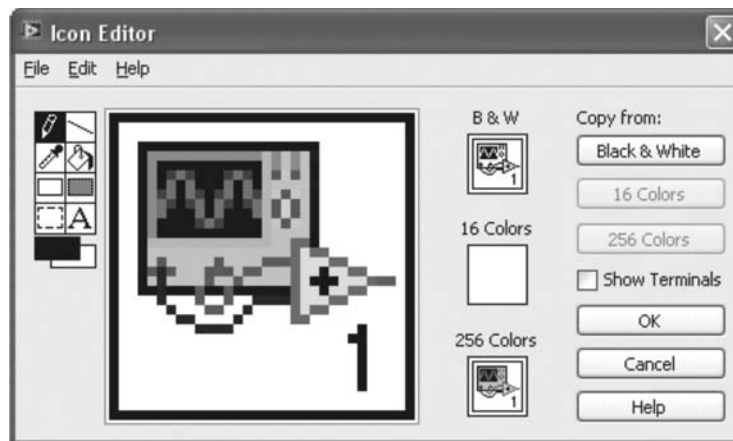

Figure 3.6 Default Icon Editor dialog box.
1. Right-clicking the icon in the upper-right corner of the front panel or block diagram and select **Edit Icon** from the shortcut menu to display the *Icon Editor* dialog box as shown in Figure 3.6.